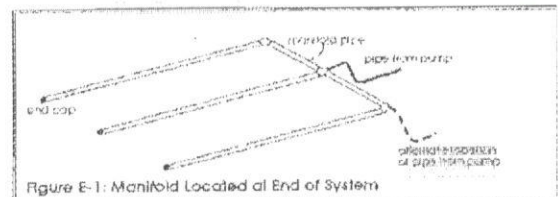

Figure E-1: Manifold Located at End of System
- If laterals are connected to header pipe as shown in Figure E-1, to select minimum required lateral diameter, enter Figure E-4 with perforation spacing (A3b) and number of perforations per lateral (A3e).